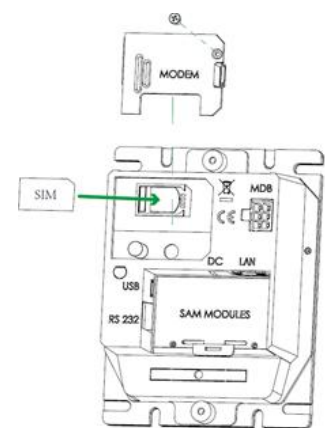

Figure 4-31 Inserting SIM card
- Loosen the screws of the SIM cover with an SL2 screwdriver, remove the cover, insert the SIM card and install the cover (as shown in Figure 4-31). Under normal conditions, the SIM is installed before delivery.